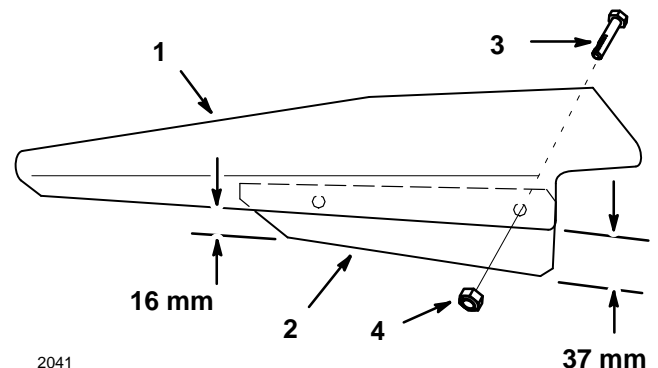

Figure 1
1. Hold deflector baffle in position along front of deflector, with large end toward the mower (Fig. 1).
2. Line up inside edge with deflector edge and space so it extends below as shown (Fig. 1).
3. Mark and drill (2) 9 mm holes in deflector (Fig. 1).
4. Secure with 5/16-18 x 3/4 (9mm) bolts and thin 5/16 lock nuts (Fig. 1).